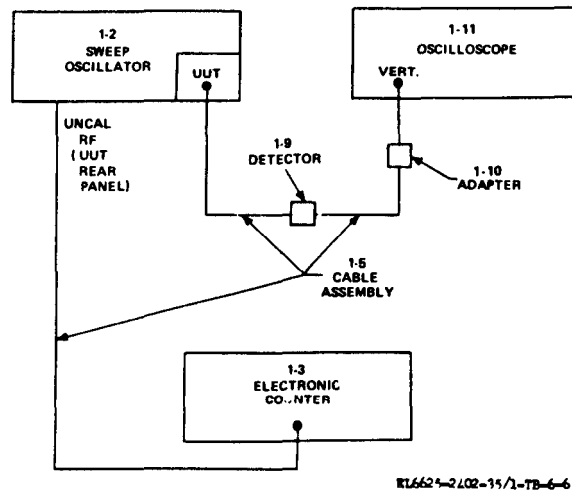

Figure 6-6. Crystal oscillator, equipment setup.
(1) Connect equipment as shown in figure 6-6.
(2) Position sweep oscillator controls as follows: